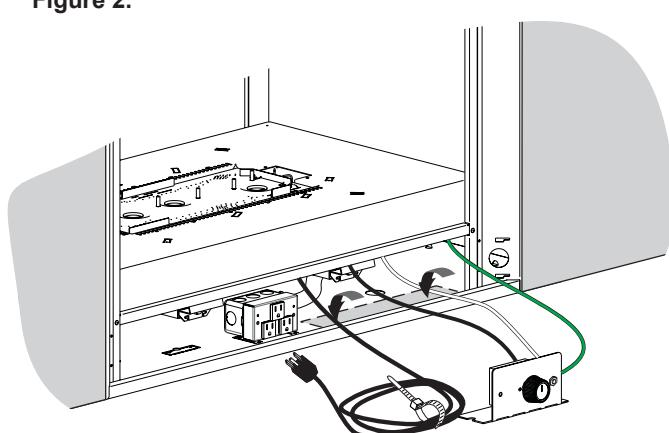

**Figure 3**
5. Snap the fan control disc into the forked prongs on the valve bracket. **See Figure 3.**